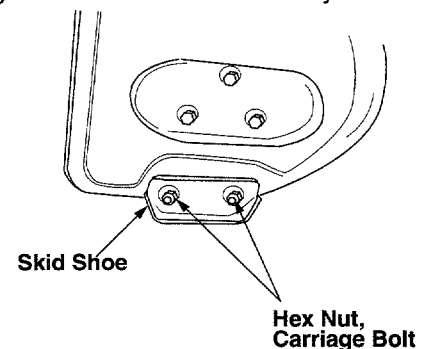

Figure 14
- Adjust the skid shoes by loosening the four hex nuts and carriage bolts and moving skid shoes to desired position. Make certain the entire bottom surface of skid shoe is against the ground to avoid uneven wear on the skid shoes. See Figure 14.
- To remove skid shoes, remove the two carriage bolts, belleville washers and hex nuts (on each side) which attach them to the snow thrower. See Figure 14.